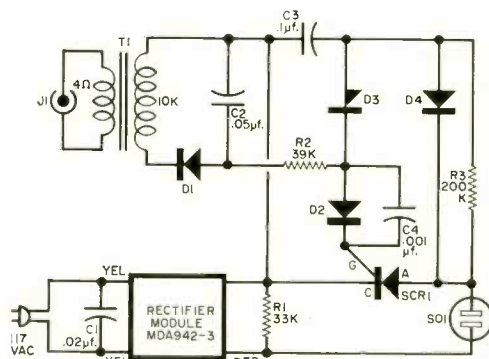

Fig. 1. Ratio of "on time" to "off time" of SCR1 changes in step with music levels, and brightens or darkens different colored bulbs plugged into SO1.
**How It Works.** Sounds fed into *J1* are stepped up by *T1*, rectified by *D1* and filtered by *C2* only to become a control voltage for trigger diode *D3*. (See Fig. 1.) It takes 15 volts to make *D3* conduct. The time required to build up 15 volts on *C3* depends upon the amplitude of the sound and the values of *C3* and *R2*. The louder the sound, the quicker the voltage buildup; the larger the re-